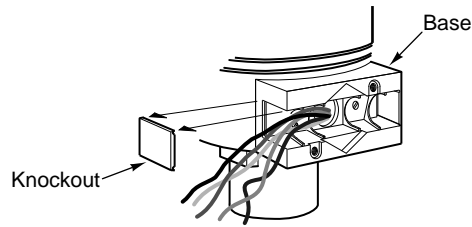

Figure-5 Removal of Knockout on Actuator Base.
2. Remove the knockout, using channel lock pliers, on the selected side of the actuator. Refer to Figure-5.